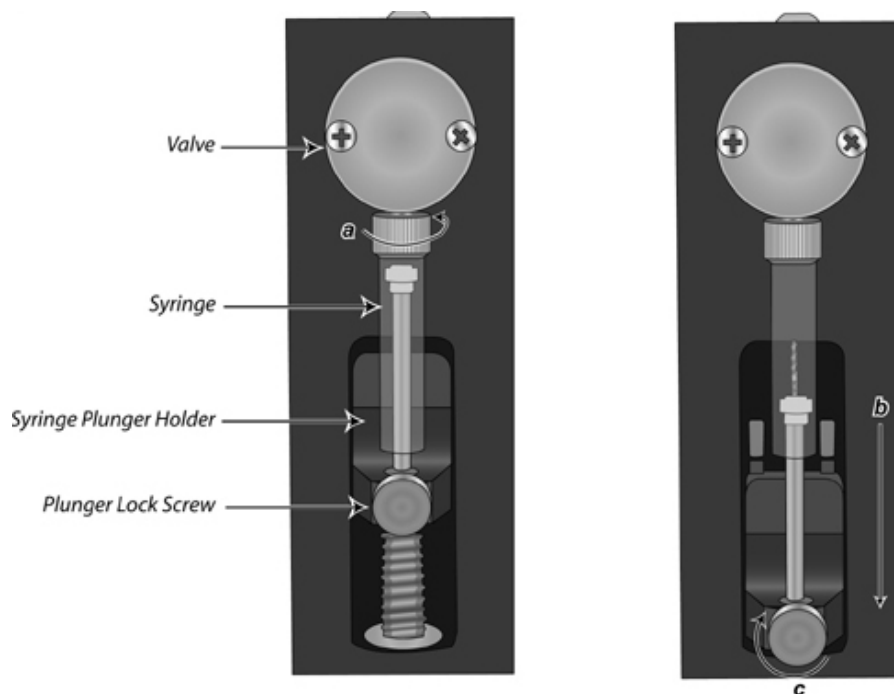

Figure 5–61. Replacing the dispenser syringe
6. To fit the new dispenser syringe, screw the syringe into the valve, pull the syringe plunger down to the plunger holder arm, and screw the syringe into place. Make sure the plunger lock screw is securely tightened (Figure 5–61).
To replace the 3-port valve (Figure 5–60 and Figure 5–62), it is recommended that you contact authorized technical service: